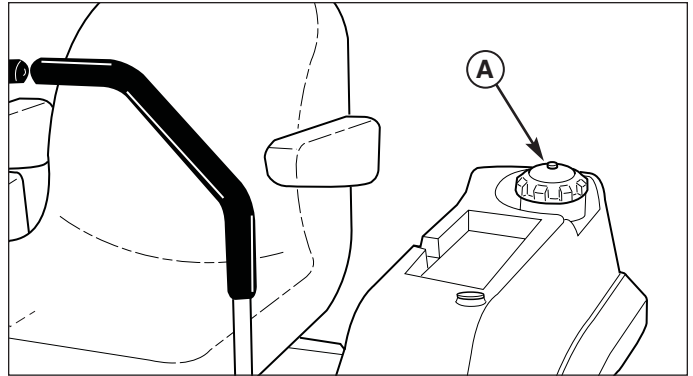

Figure 26. Adding Fuel
1. Remove the fuel cap (see A, Figure 26).